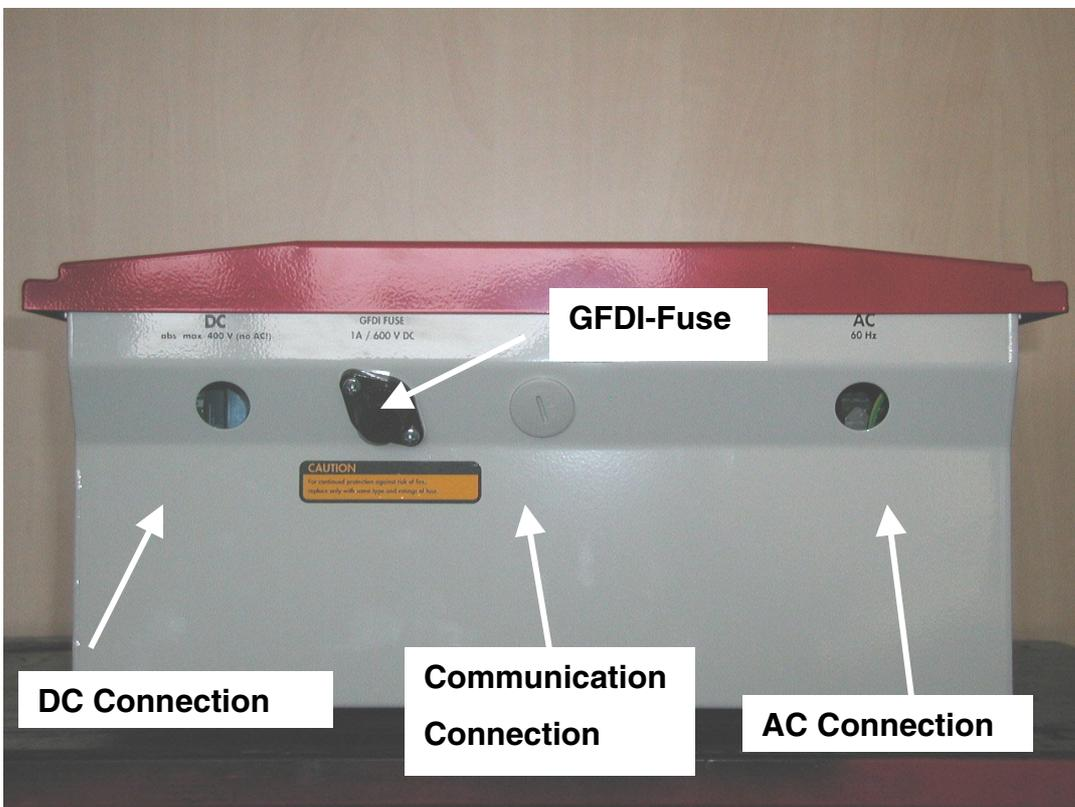

Fig. 2.5: Bottom view of the Sunny Boy
- Remove the GFDI-fuse from the Sunny Boy (see Fig. 2.5).